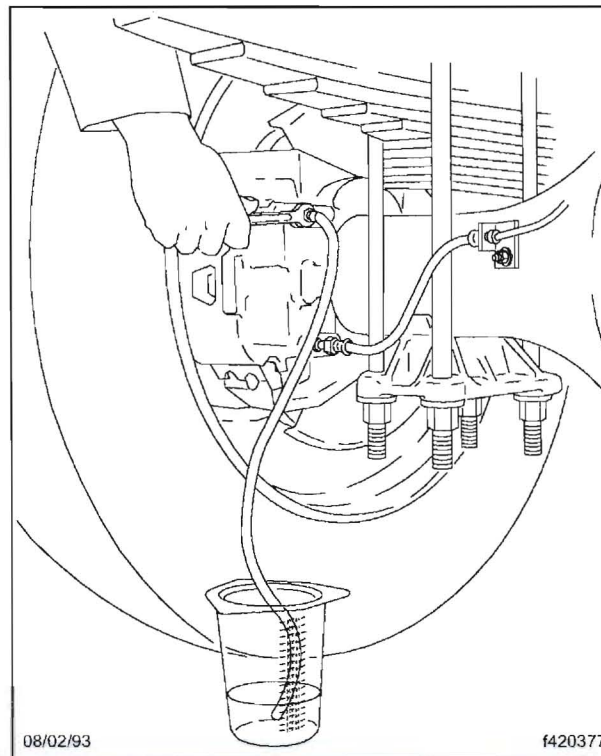

Fig. 4, Bleed the Hydraulic Connection
- 4.1 Put a wrench on the bleeder fitting at the caliper. Attach a length of clear tubing to the bleeder fitting. Make sure the tube fits snugly. Submerge the tubing in a container of clean brake fluid. See **Fig. 4**.
- 6.1 Put a wrench on the bleeder fitting at the caliper. Attach a length of clear tubing to the bleeder fitting. Make sure the tube fits snugly. Submerge the tubing in a container of clean brake fluid. See **Fig. 4**.
- 4.1 Put a wrench on the bleeder fitting at the caliper, then attach a length of clear tubing to the bleeder fitting. Make sure the tube fits snugly. Submerge the tubing in a container of clean brake fluid. See **Fig. 4**.